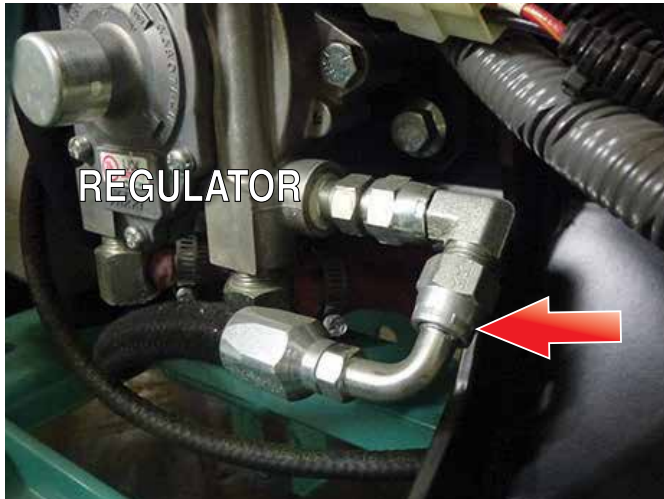

Figure 13. 90° Fitting Removal
8. Remove 90° hose fitting (Figure 13) at the base of the regulator, and discard.